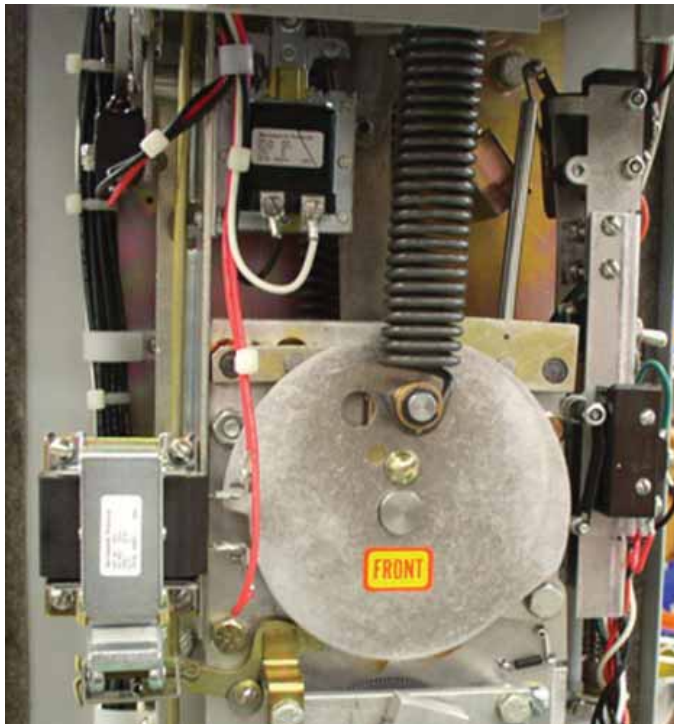

Figure 23.
- b.** Slide cover downward and remove it. Refer to Figure 23.